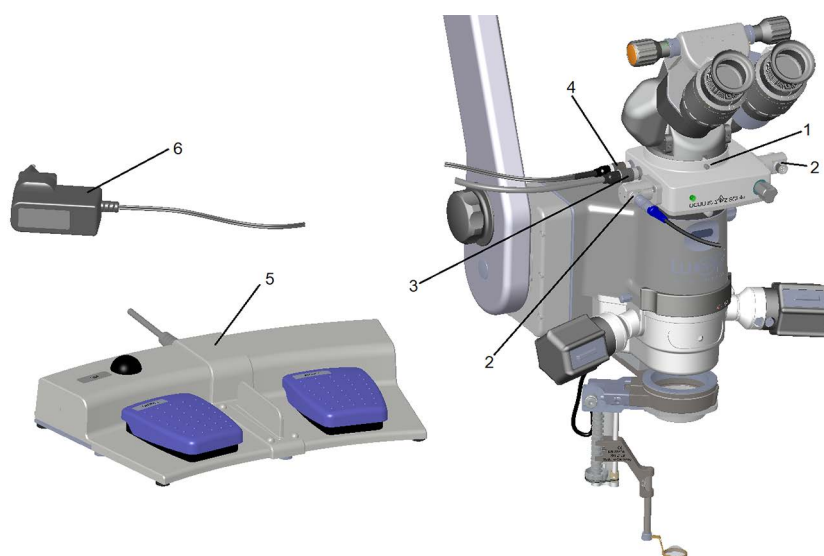

Fig. 4-2: Example: SDI® 4c at the microscope
- ➔ Proceed in the same manner when mounting the beam splitter, the binocular eyepiece and other components of the microscope; Carefully tighten the hexagon socket set screw of the SDI® 4 (→ fig. 4-2 (page 21), item 2) in the same way with the included hexagon screw driver and then make sure that each component is correctly seated.
- After inserting the plugs into the corresponding sockets (→ fig. 4-2 (page 21), items 3 and 4), lock them in place by turning the threaded connector (milled sleeve).